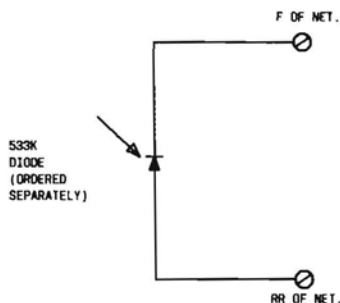

Fig. 5—Installing Diode for Dial Restriction
(a) Install a 533K diode between terminals RR and F of the network as shown in Fig. 5.
*Note 1:* Rotary dial telephone sets must have a 533K diode (ordered separately), installed between RR and F of the network see Fig. 5.
*Note 2:* The new line switch can be identified by two additional leads which are (BL).